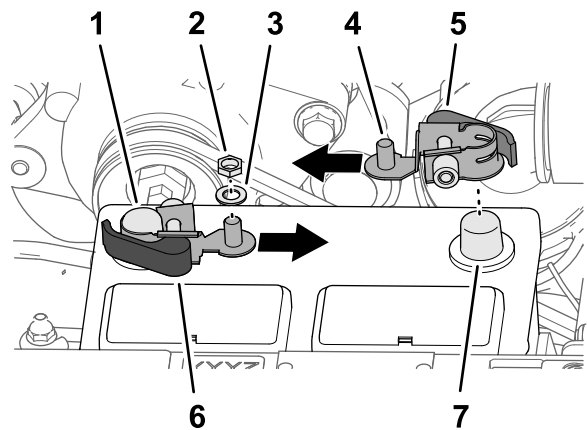

Figure 207
1. Remove the hex nuts and washers from the red and black handle quick-connect clamps (Figure 207).
3. Assemble the quick-connect clamp onto the negative battery post, with the threaded post of the clamp aligned toward the center of the battery as shown in Figure 207.